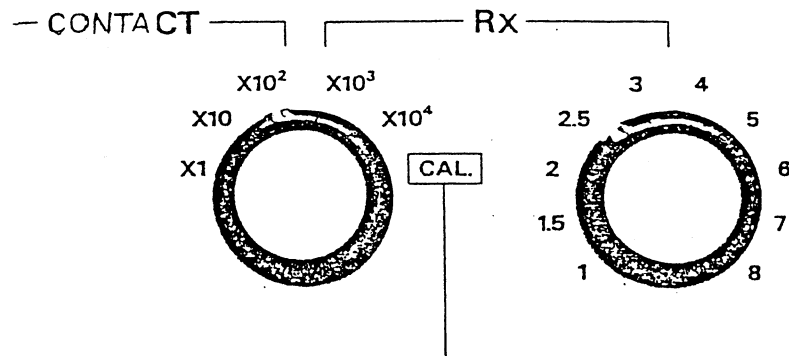

Figure 5 R_x Setting Switch (Right) and Multi-Range Switch (Left)
- . R_x setting switch (S_3) (Figure 5)
- . Multi-range switch (S_1) (Figures 5 and 6)
- 2) Set setting resistance to the discriminative value with S_3 and S_1 . (See Figure 5.)